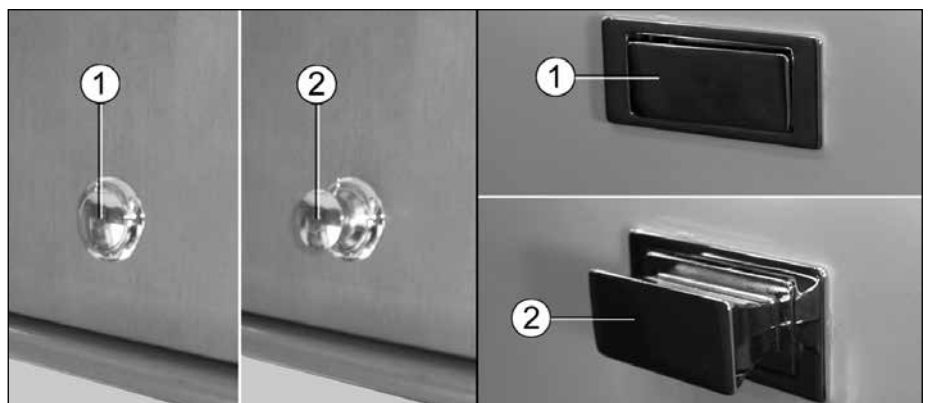

Fig. 36 Push-lock lock closed / opened
- Pushing on the push-lock locks opens (Fig. 36, Pos. 2) or closes (Fig. 36, Pos. 1) them.